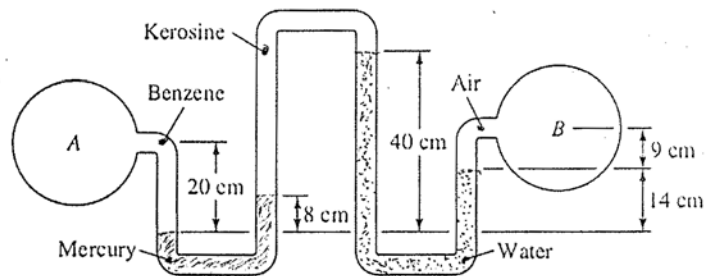

Fig. Q2.
2. (a) In Fig. Q2 all fluids are at 20°C . Determine the pressure difference (Pa) between points A and B. Assume the specific weights as follows: $8640 \text{ N}/\text{m}^3$ for Benzene, $133100 \text{ N}/\text{m}^3$ for Mercury, $7885 \text{ N}/\text{m}^3$ for Kerosene, and $9790 \text{ N}/\text{m}^3$ for Water.